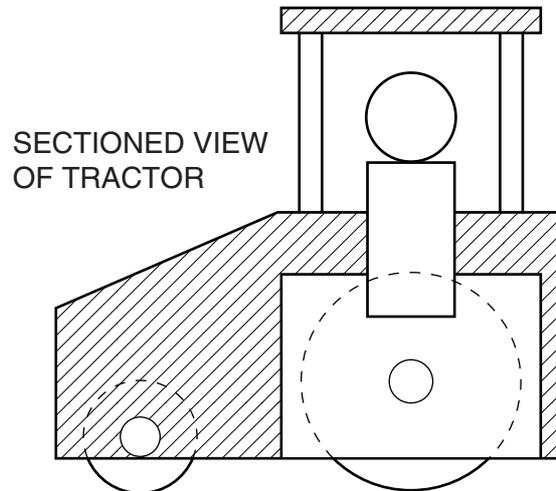

Fig. 4
- 3 Fig. 4 shows the basic design for a wooden toy tractor.
- (a) (i) On Fig. 4 draw a mechanism that would make the driver move up and down. [3]